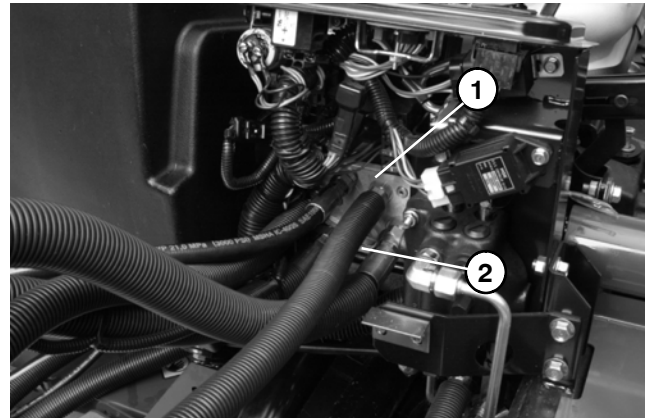

Figure 65
4. Remove plug from hydraulic manifold port (G2) (Fig. 65 and 66).